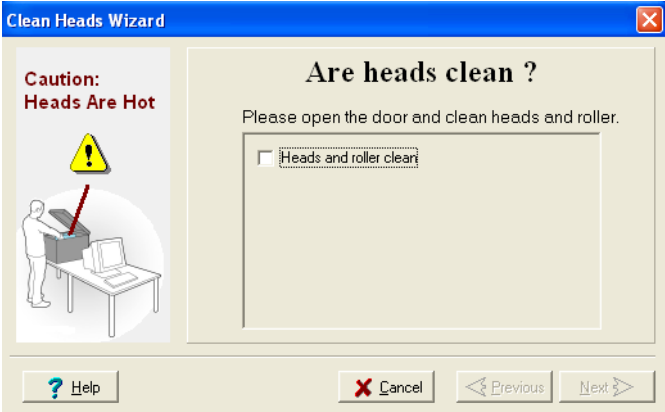

Figure 6-28: Head cleaning wizard—steps 5–10
10. When you have finished cleaning, select the confirmation check box in the wizard screen (see figure 6-28) and click **Next**.